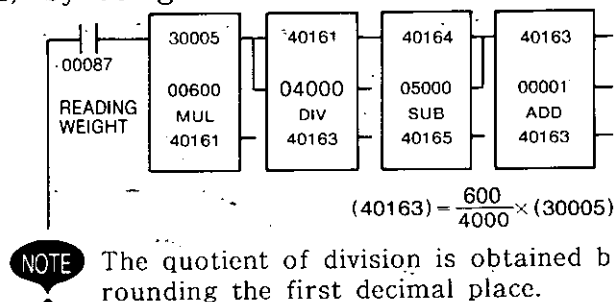

Fig. 5.38 Scaling Circuit
- The numeric data of 0 to 4000 entered in 30005 can be converted to a value of 0 to 600 (tons) by using the ladder circuit shown in Fig. 5.38.